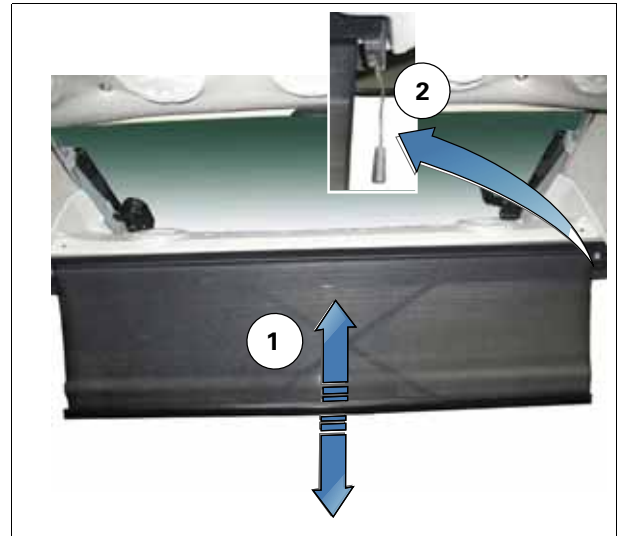

Fig. 70.
To change its position, pull the visor (1) downwards until the required position is reached fig. 70.